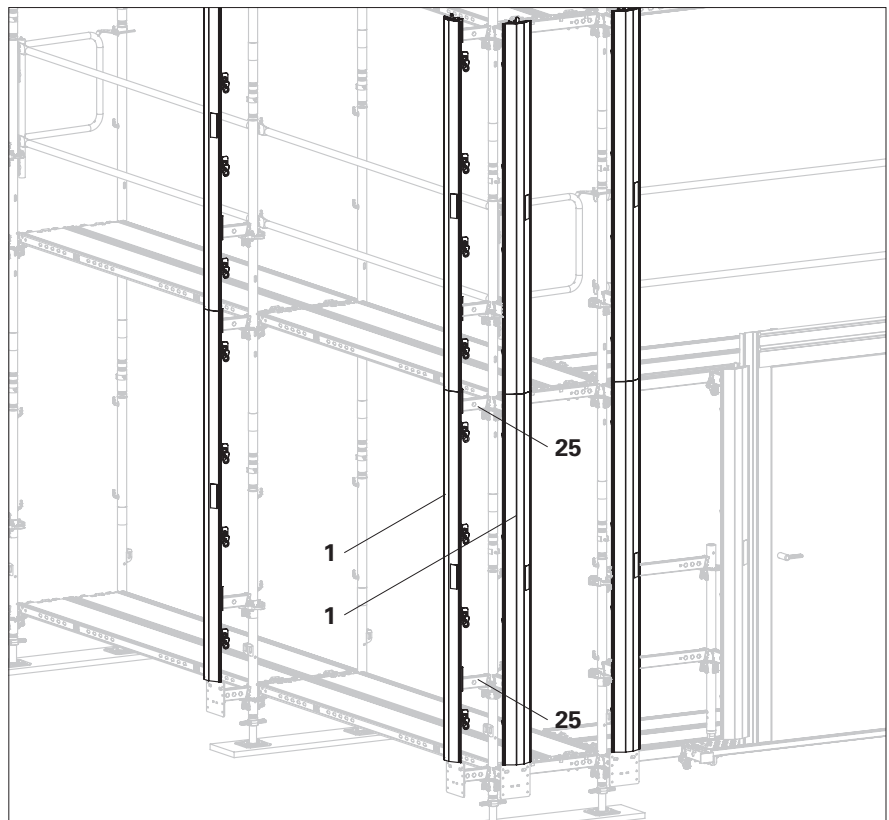

Fig. C3.02
1. Assemble the Support Rail CVR 200 (1) to Supports UC 25 (32). (Fig. C3.02)